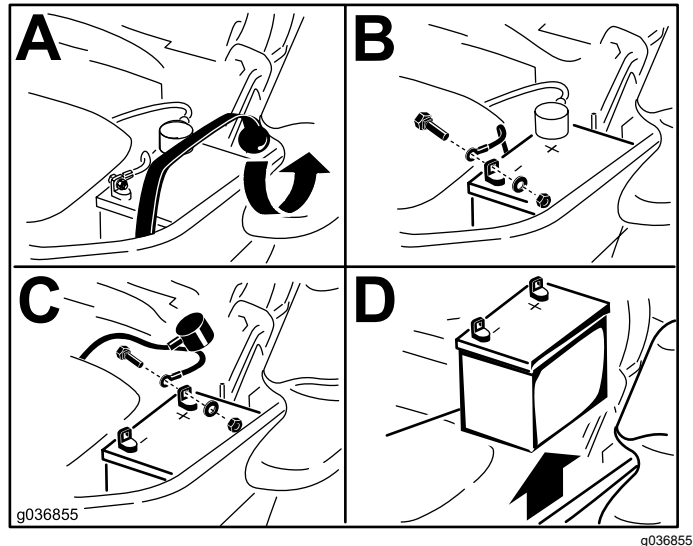

Figure 46
3. Remove the battery as shown in Figure 46.
1. Position the battery in the tray with the terminal posts opposite from the hydraulic tank (Figure 46).
4. Secure the cables with 2 bolts, 2 washers, and 2 locknuts (Figure 46).
6. Secure the battery with the rubber strap (Figure 46).